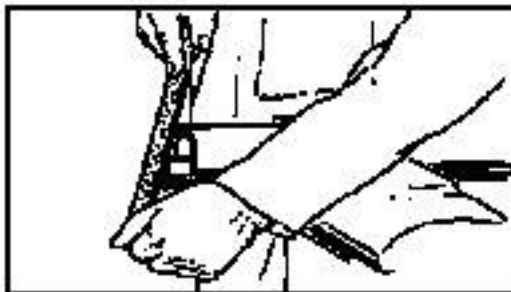

Fig. 20: Debur the sawn edges
7. Debur the sawn edges (see Fig. 20).